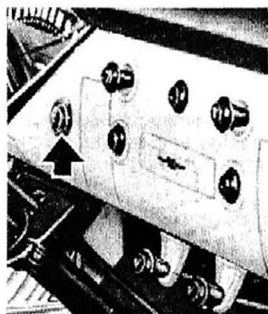

Fig. 4 Ignition Switch
**Ignition Switch.** The ignition switch is located near the bottom of the instrument panel slightly below and to the right of the instrument cluster (fig. 4), and is connected in the low tension circuit between the battery and the coil. This switch is used to make or break the ignition circuit when starting or stopping the engine.